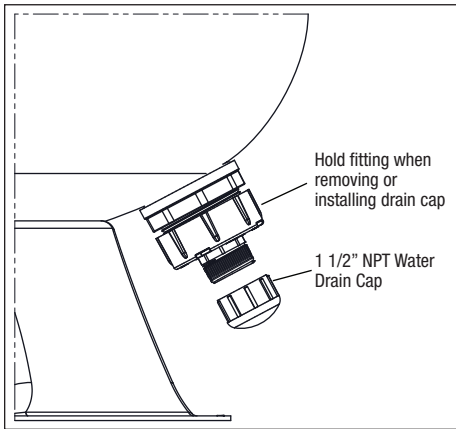

Figure 7. Water Drain Cap
13. Connect the pipes using the unions supplied with the filter. *Do not use Teflon® tape or pipe dope on any unions. Assemble the unions dry and hand tighten. See Figure 7.*
14. Any piping with a ball valve that may be connected to the water drain at the bottom of the filter tank must be removable to facilitate the further removal of drain components to allow space for the flushing of sand from the filter. See Figure 7 for water drain cap location.